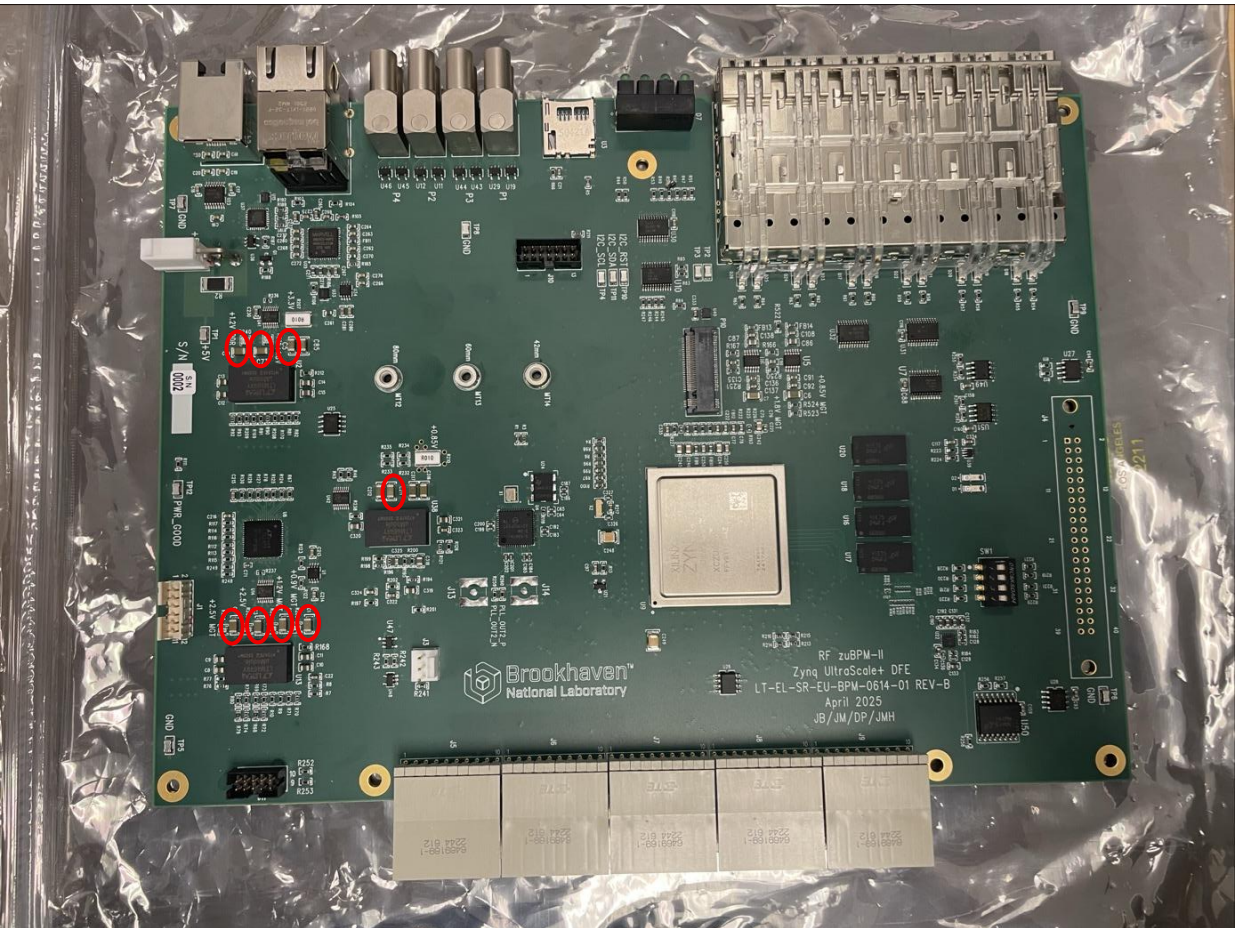

Figure 8: Test Points
3.10.10. Power-cycle the board and measure these test points (Table 4) to verify that the board is getting the proper voltage. Record the values to input them into the GUI later. Refer to Figure 8 for the locations of the test points of the zudfe.